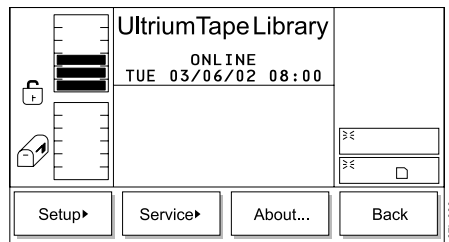

Figure 320. Main Menu (alternate screen)
1. From the Main Menu's initial screen, press the button below the **More** softkey. The Main Menu's alternate screen displays (see Figure 320).